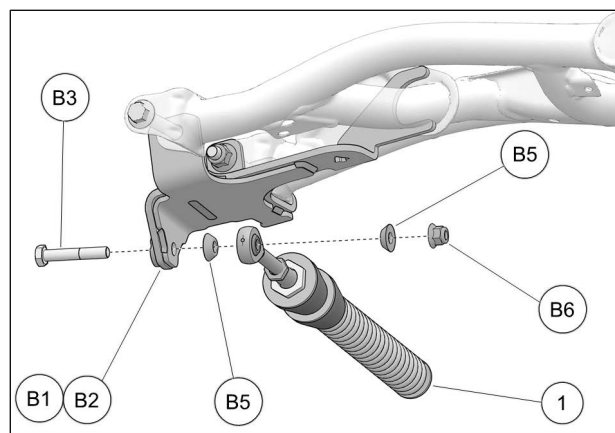

Fig. 10
10. Attach stabilizing rod (1) to anchor bracket (B1-B2), using bolt (B3), taper spacer bushings (B5), and nut (B6). Torque to 70 Nm [52 lb•ft]. See Fig. 10